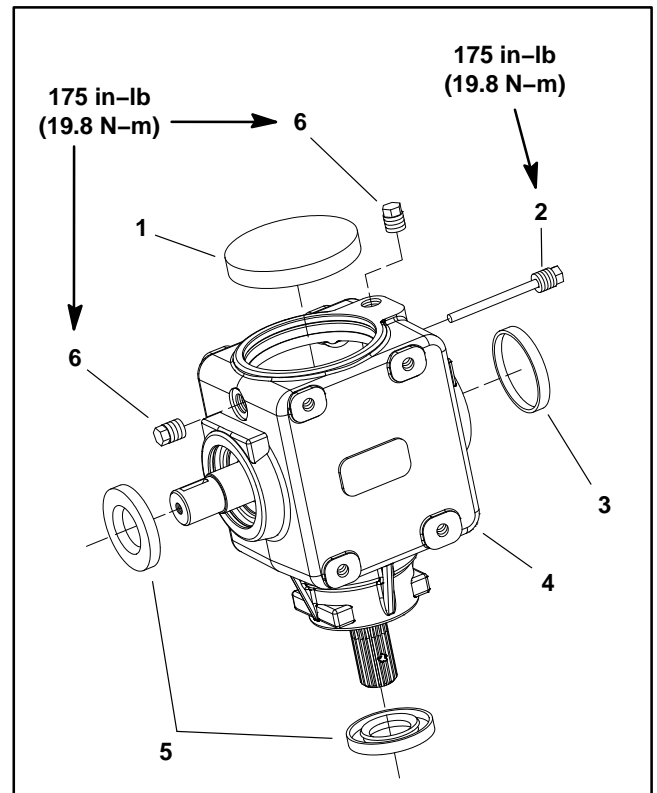

Figure 17
12. If necessary, remove and replace oil seals and oil caps in gearbox (Fig. 17).